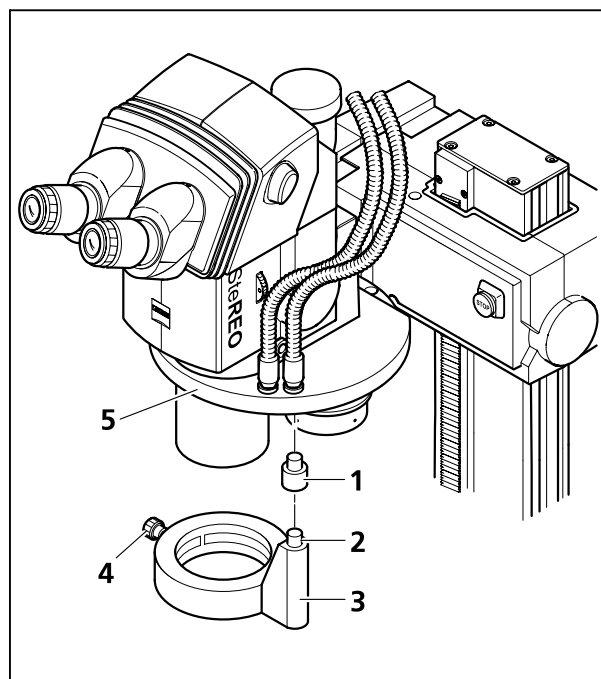

Fig. 34 Slit-ring illuminator
- Put the appropriate light-conducting rod (Fig. 34/1; 13 mm or 51 mm) onto the fiber input (Fig. 34/2) of the slit-ring illuminator (Fig. 34/3).
- Put the slit-ring illuminator from below on the corresponding objective and push it upwards until the light-conducting rod touches the mechanical stop in the corresponding hole at the underside of the objective nosepiece (Fig. 34/5).
- Fix the slit-ring illuminator with the knurled knob (Fig. 34/4) in this position.